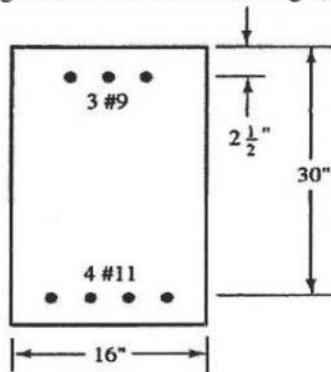

Fig 5
5. a) Compute the design strength of the beam shown in Fig 5, if, $f'_c = 4000$ psi, $f_y = 60000$ psi. (6)